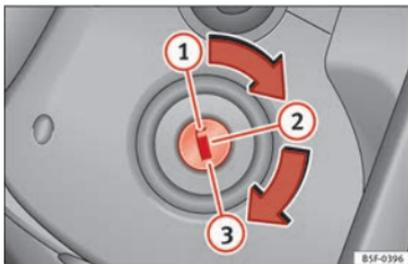

Fig. 141 Ignition key positions.
- » **Fig. 141.**
- Remove the key from the ignition in position  » **Fig. 141** » .